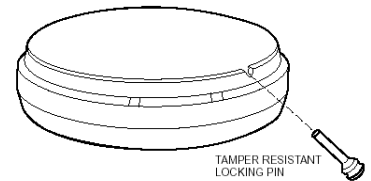

Figure 3
6.7 To make your carbon monoxide alarm tamper resistant, a locking pin has been provided in the bag with the screws and anchors. Using this pin will deter children and others from removing the alarm from the mounting plate. To use the pin, insert it into the hole in the side of the alarm after the alarm has been installed on the mounting plate (see fig. 3). Note the tamper resist pin will have to be removed in order to change the battery. Using long nose pliers pull the pin out of the hole, it is now possible to remove the alarm from the mounting plate. Test alarm immediately following installation and weekly thereafter for proper operation by pushing the test button until a short beep is heard (approximately three seconds). Release the button. The alarm will then test itself for proper operation and the RED L.E.D. will flash 5 times. At completion of the self-test, the alarm will sound 2 patterns. The alarm then resumes normal operation.
IF TAMPER RESISTANT PIN HAS BEEN USED, REFER TO STEP 6.7 UNDER INSTALLATION INSTRUCTIONS FOR REMOVAL INSTRUCTIONS. (see Figure 3)